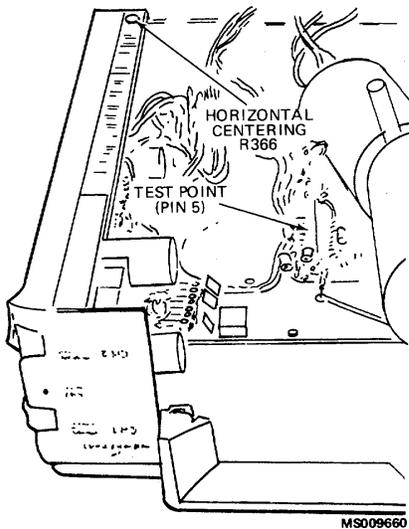

Figure 4-5. Location of Horizontal Centering adjustment and test point.
- Connect the DC voltmeter between pin 5 of U105 (positive meter lead to pin 5) and ground. (See Fig. 4-5 for test point and adjustment location.)